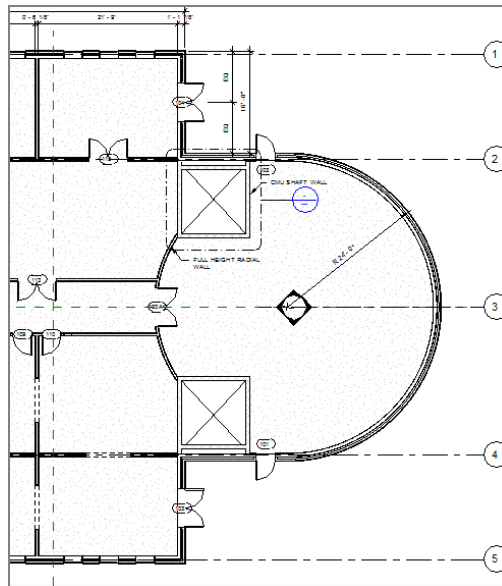

FIGURE 8.7: The completed horizontal grids
5. Add grids 4 and 5 to the exact opposite ends of the east wing (see Figure 8.7).